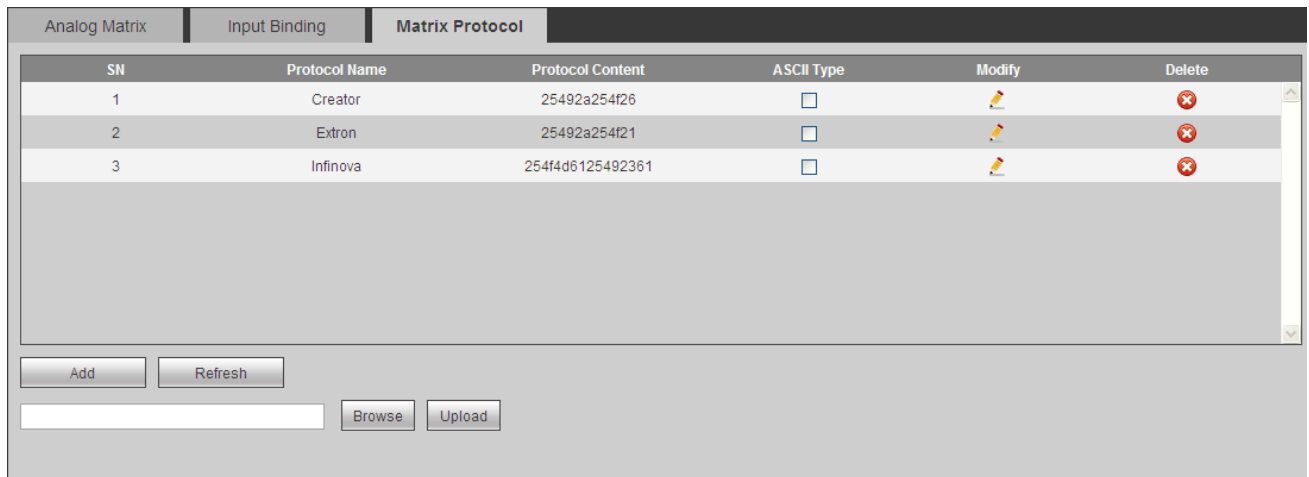

Figure 3- 49
Step 1. Select Matrix Protocol tab. System displays Figure 3- 49.
Step 2. Click Add. System displays Figure 3- 50.